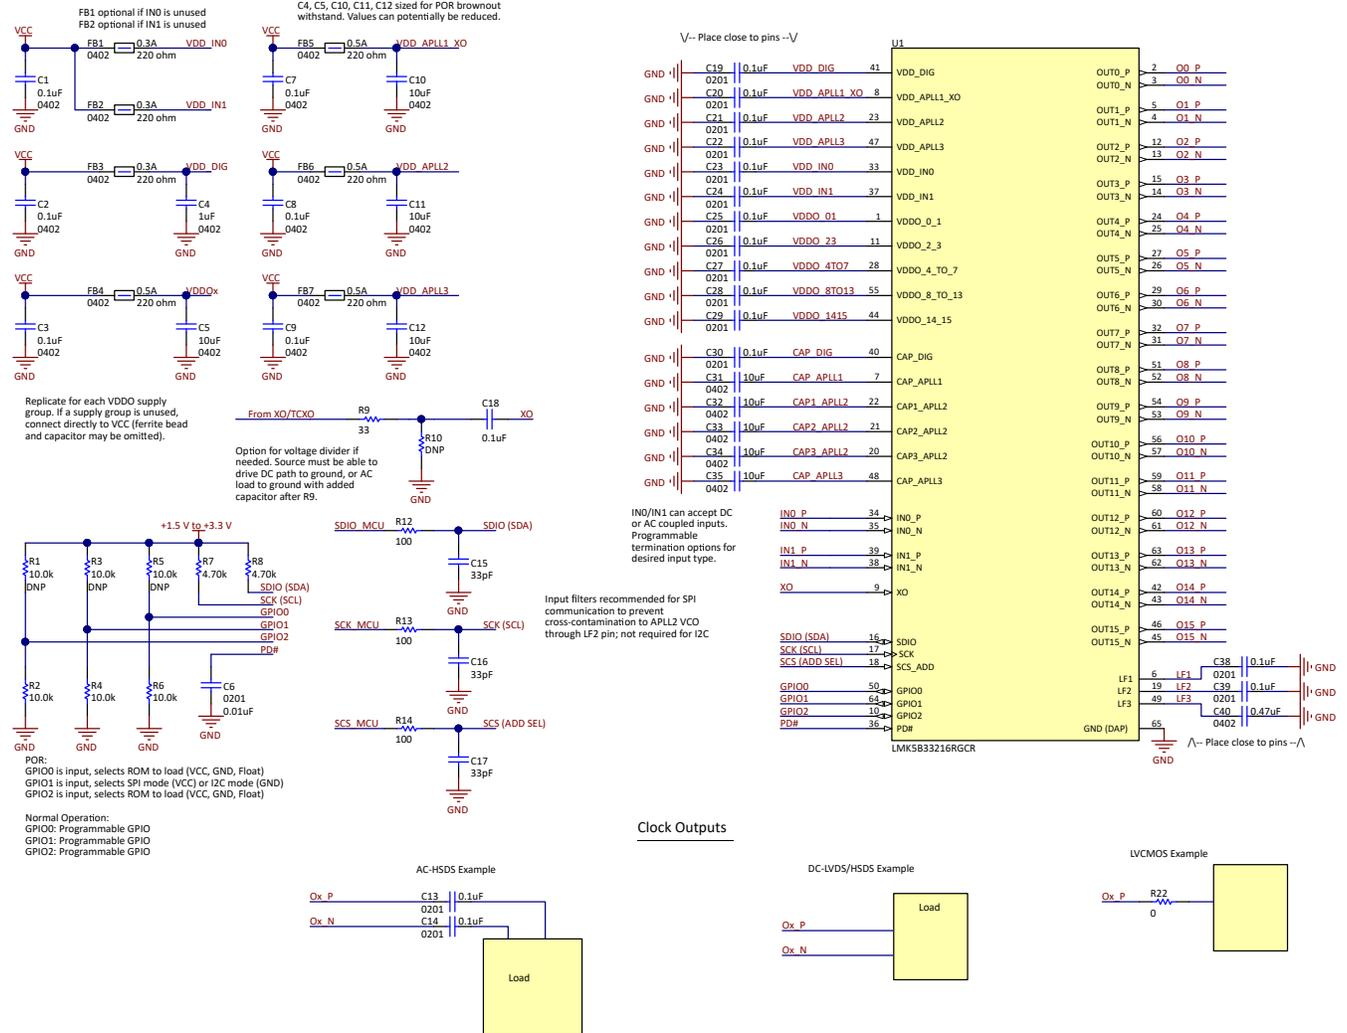

图 9-3. Reference Schematic Example
**Figure 9-3** shows a reference schematic to help implement the LMK5B33216 and its peripheral circuitry. Power filtering examples are given for the core supply pins and independent output supply pins. Single-ended LVCMOS, LVDS, HSDS, LVPECL, and HCSL clock interfacing examples are shown for the clock input and output pins. An external CMOS oscillator drives an AC-coupled voltage divider network as an example to interface the 3.3-V LVCMOS output to meet the input voltage swing specified for the XO input. The XO pin of the LMK5B33216 can accept 3.3-V LVCMOS input. The required external capacitors are placed close to the LMK5B33216 and are shown with the suggested values. External pullup and pulldown resistor options at the logic I/O pins set the default input states. The I²C or SPI pins and other logic I/O pins can be connected to a host device (not shown) to program and control the LMK5B33216 and monitor its status.
- Reference inputs: Follow the LVCMOS or differential clock input interface examples in Figure 9-3 or Clock Input Interfacing and Termination.
- Clock output Interfacing: Follow the single-ended or differential clock output interface examples in Figure 9-3 or Clock Output Interfacing and Termination.